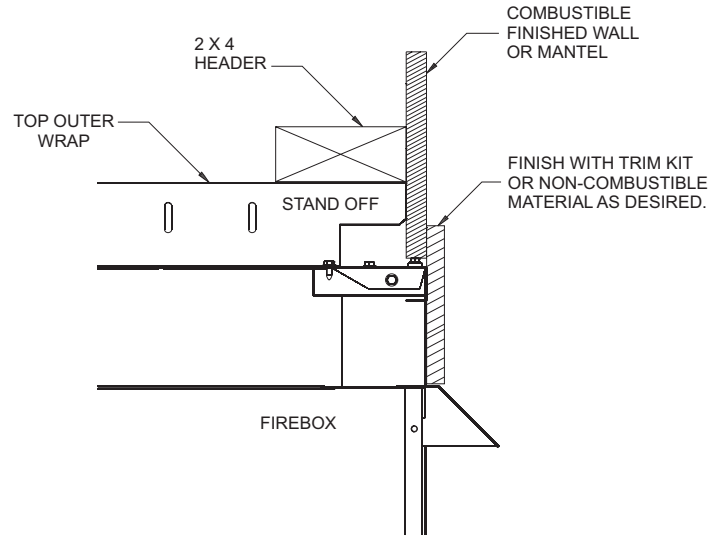

Figure 2
**Top Framing and Finishing:** Combustible framing may rest on top of standoffs. Combustible finishing materials may extend to the top standoff screws on the front edge of the outer wrap. **See Figure 2.**